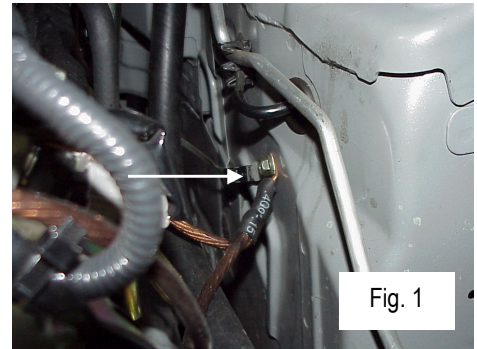

Fig. 1
3. Beginning with **HARNES 1**, install the terminal with the 2 cables at the factory installed ground point on the left inner fender tower (Fig. 1). Make sure the longer of the two remaining cables (small terminal) face towards front of engine and the shorter (large terminal) faces the rear.